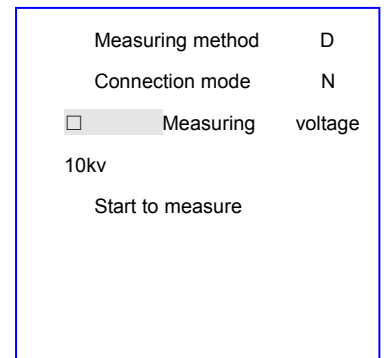

Figure 6 Voltage
③ Pressing the "ENT", the cursor would go to the "Connection mode P", pressing "←", "→", it could be adjusted to "Connection mode N", pressing "ESC", the cursor would go to the first line, and then pressing "↓", it would be moved down to the "Measuring voltage" which is shown in Figure 6.